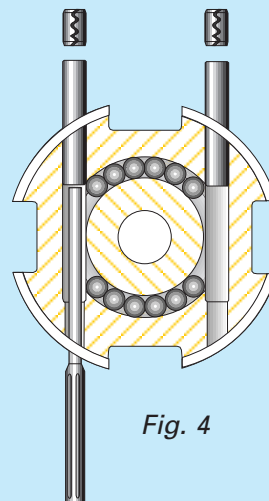

Fig. 4
2. Remove all spring- and lock pins, by using a hammer and suitable mandrel (Fig. 4).